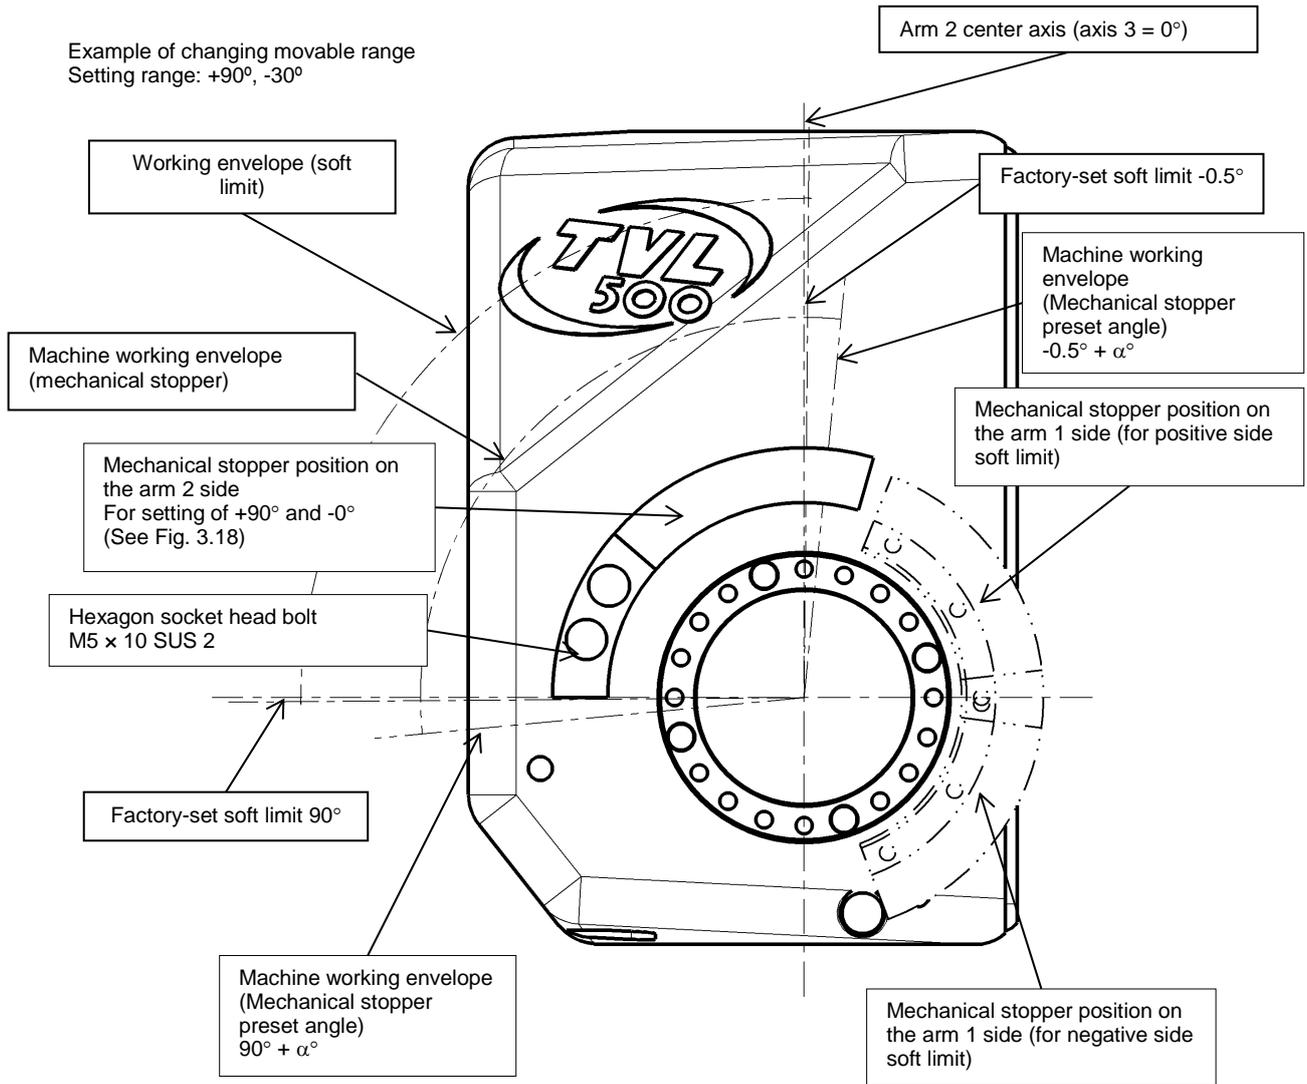

Fig. 3.21 Example of changing axis-3 working envelope (TVL 500)
By changing the shape of the mechanical stopper, you can set the operation range of the machine at a desired level. A design example of a mechanical stopper is explained below using the TVL500 robot as an example. Wherever required, you can design and manufacture a mechanical stopper on the arm 2 (1) side according to Figs. 3.21 to 24.